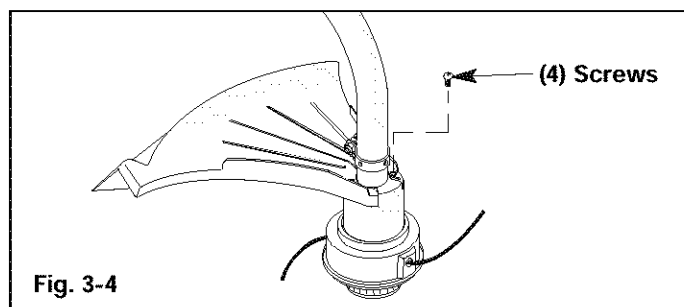

Fig. 3-4
3. Install the screws with a Phillips screwdriver (Fig. 3-4).